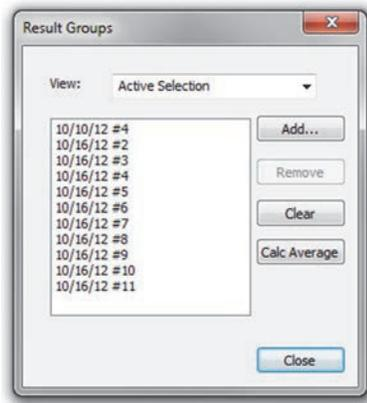

Figure 8-4 The Result Groups dialog box
- Click the averaging () button to display the tests selected for averaging in the **Result Groups** dialog box (Figure 8-4 on page 108).